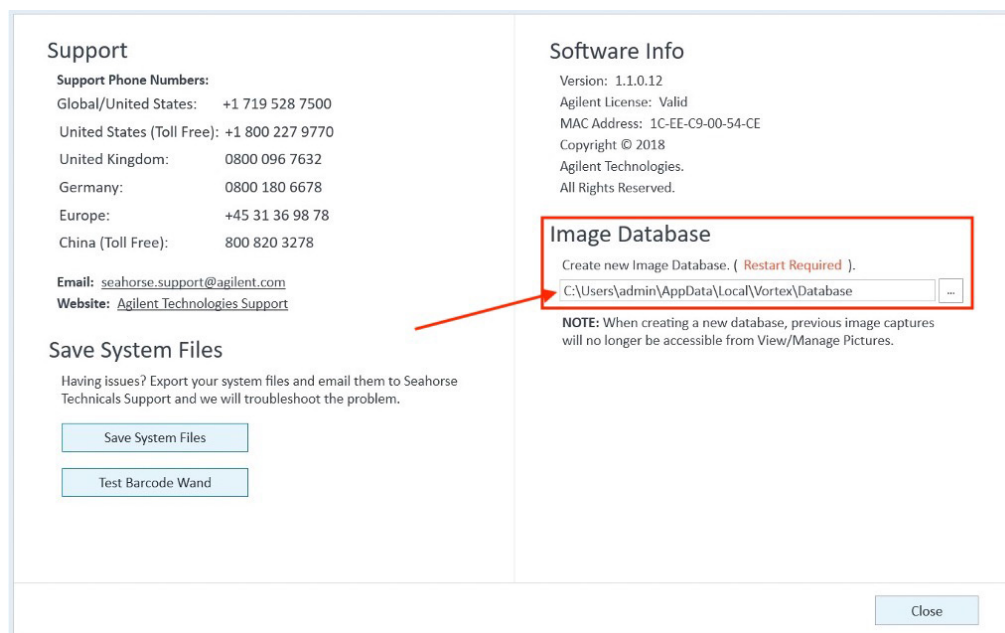

Figure 28. Verification of the **Image Database** information on the **Help** view in the XF Imaging and Cell Counting software application.
- 15 Open the XF Imaging and Cell Counting software application; this will automatically generate the **Image Database** file path and will confirm the license validity. You can verify this information on the **Help** view in the XF Imaging and Cell Counting software application (Figure 28).